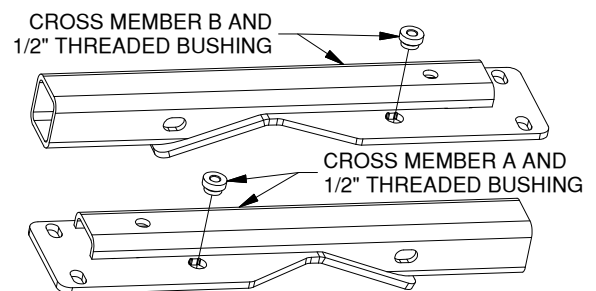

Figure C1: Cross members
1. **Install threaded bushings.** Install a 1/2" threaded bushing into each of the four cross members. Align each bushing into the "D" shaped hole on top of each cross member and tap or press the bushing into the hole. The rim of the bushing must be flat against the cross member, see Figure C1. Do not damage threads.